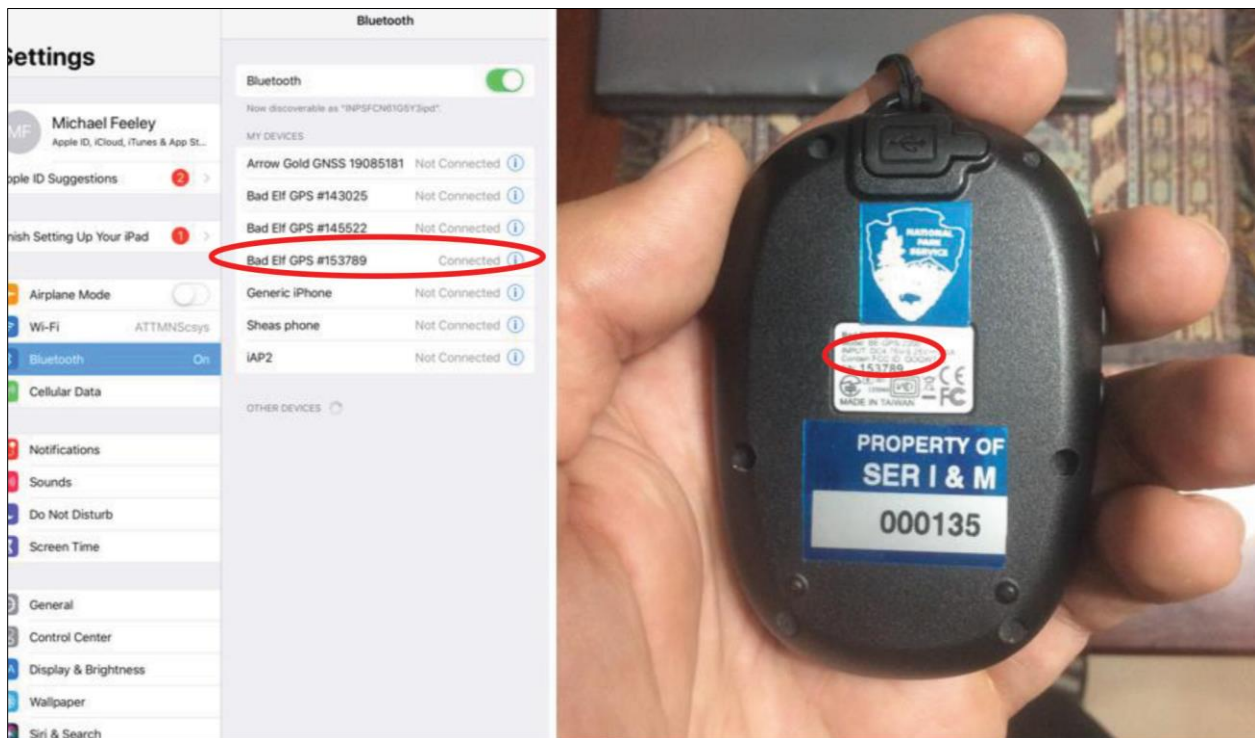

Figure 12. On the left, a screenshot of the Settings app on the iPad showing that the Bad Elf unit (on the right) successfully connected to the iPad.
2. On the iPad navigate to the Bluetooth section found in the Settings app/window (Figure 12 left).
6. The Bad Elf unit should now appear under the 'My Devices' pane in the Bluetooth section and be listed as 'Connected' (see Figure 12 right).